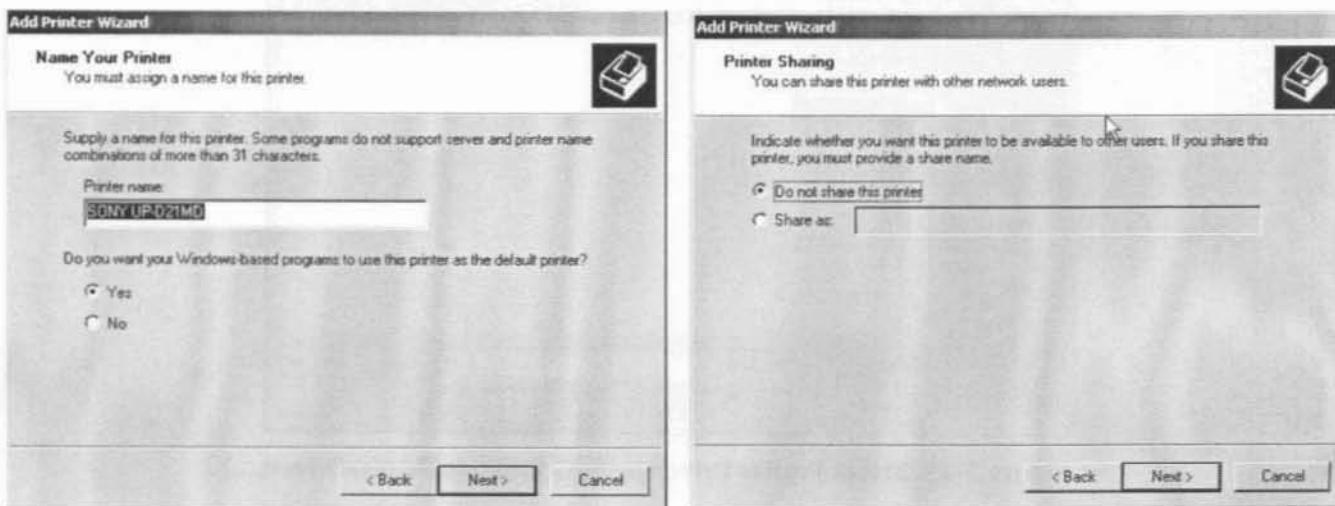

Figure 3-40 Assign name and select Printer Sharing - no
see: Figure 3-40.
- 16.) Select 'Do not share this printer' and confirm the "Printer Sharing" window (Figure 3-40) by clicking NEXT.